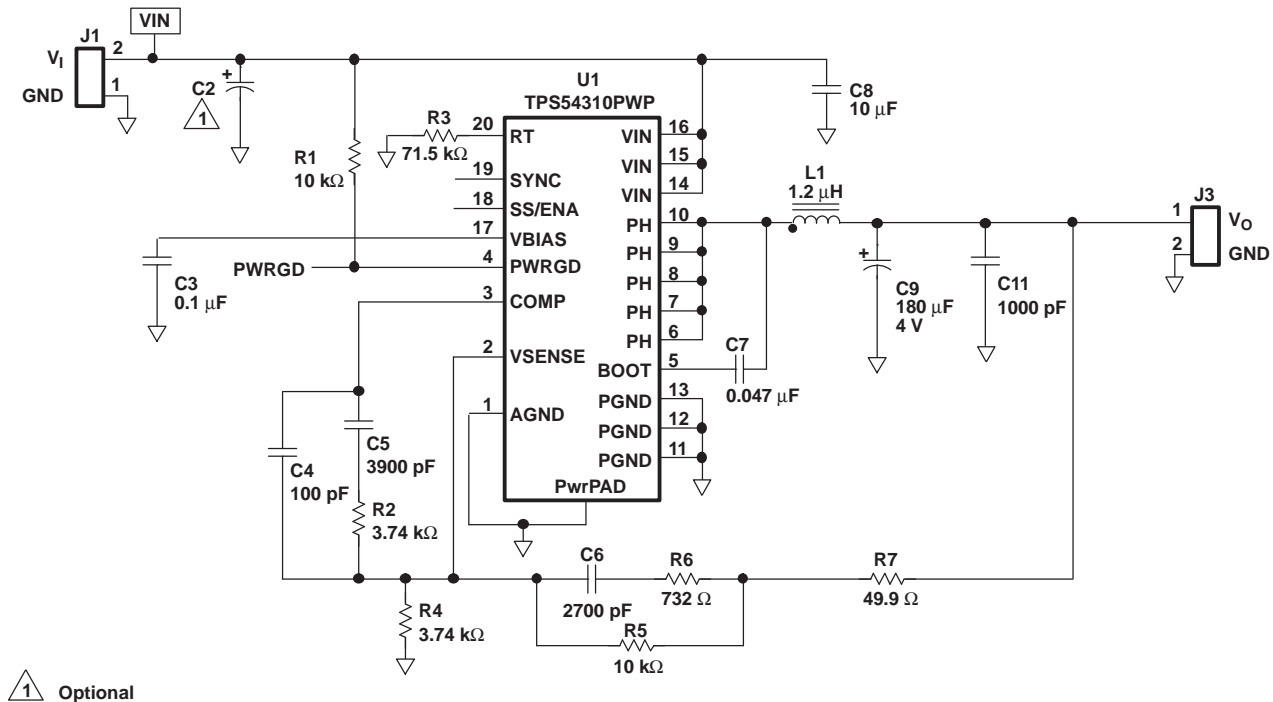

Figure 10. TPS54310 Schematic
- (1) Specified by design
- (2) Static resistive loads only
- (3) Specified by the circuit used in Figure 10.
Figure 10 shows the schematic diagram for a typical TPS54310 application. The TPS54310 (U1) can provide up to 3 A of output current at a nominal output voltage of 3.3 V. For proper thermal performance, the thermal pad under the TPS54310 integrated circuit needs to be soldered well to the printed-circuit board.
The output voltage of the TPS54310 can be set by feeding back a portion of the output to the VSENSE pin using a resistor divider network. In the application circuit of Figure 10, this divider network is comprised of resistors R5 and R4. To calculate the resistor values to generate the required output voltage use Equation 1.